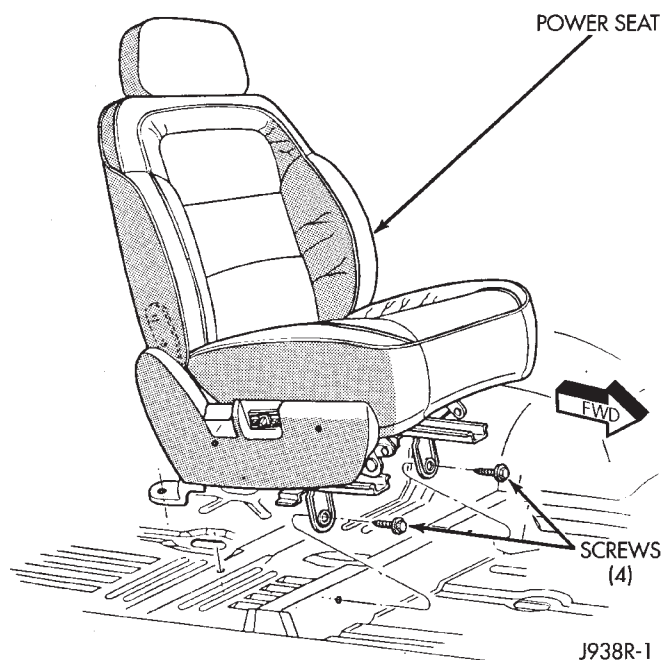

Fig. 3 Front Bucket Seat
Bucket seat platforms are attached to floor panel with 4 bolts (Fig. 3). The trim covers are attached to platform with 3 screws.
- (1) Position seat on floor panel.
- (2) Install and tighten seat retaining bolts to 25 N•m (18 ft-lbs) torque (Fig. 3).
(1) Remove the seat from vehicle (Fig. 3). If necessary, refer to removal procedure.
(2) Remove 3 screws retaining seat trim cover (Fig. 3).
(3) Remove wire support rod and rear carpet seat track cover, and flap retainer.
(4) For power seats, remove control housing from seat cushion.
(5) Remove retaining screws and seat cushion from seat frame.
(6) Remove seat cushion cover retaining screws and wire rods from cushion cover. Remove cover from cushion frame.
(1) Install seat cushion cover on cushion frame. Install wire rods and retaining screws. Tighten screws to 2 N•m (13 in-lbs) torque.
(2) Install cushion and retaining screws on seat frame.
(3) For power seats, install control housing on seat cushion. Tighten screws to 2 N•m (13 in-lbs) torque.
(4) Install rear carpet seat track cover and support rod and flap retainer.
(5) Install seat trim cover and screws onto seat platform.
(6) Install seat in vehicle (Fig. 3). If necessary, refer to removal procedure.